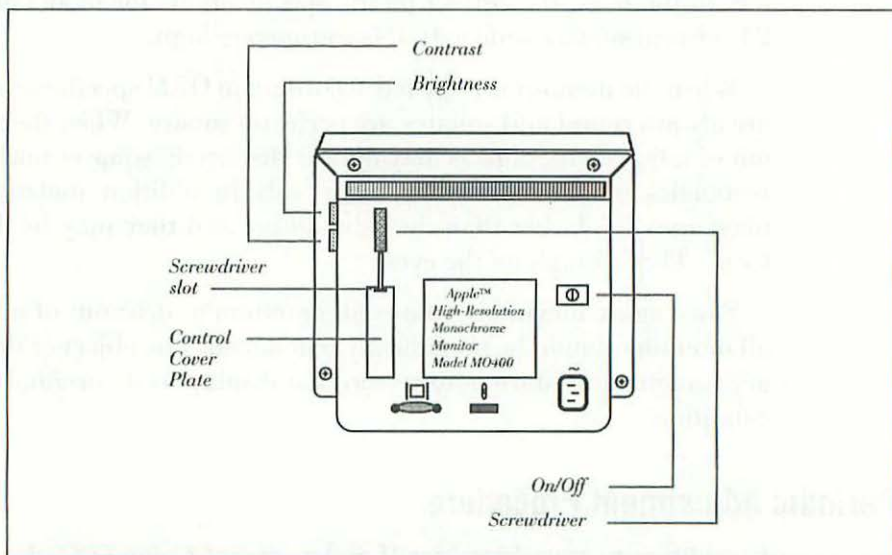

Figure 2-3 The display adjustment controls are located under a cover plate on the left side of the back cabinet.
As shown in Figure 2-3, the display adjustment controls are located under a cover plate on the left side of the back cabinet. To pry off the cover plate, insert a small screwdriver (or a metal nail file) into the screwdriver slot at the top of the cover plate and push the screwdriver handle away from you (toward the monitor). With very little effort, the cover plate should pop right off. No other disassembly is required. It's *not* necessary to loosen any screws. It's *not* necessary to remove the cabinet back.
1. Remove the control cover plate, as shown in Figure 2-3.